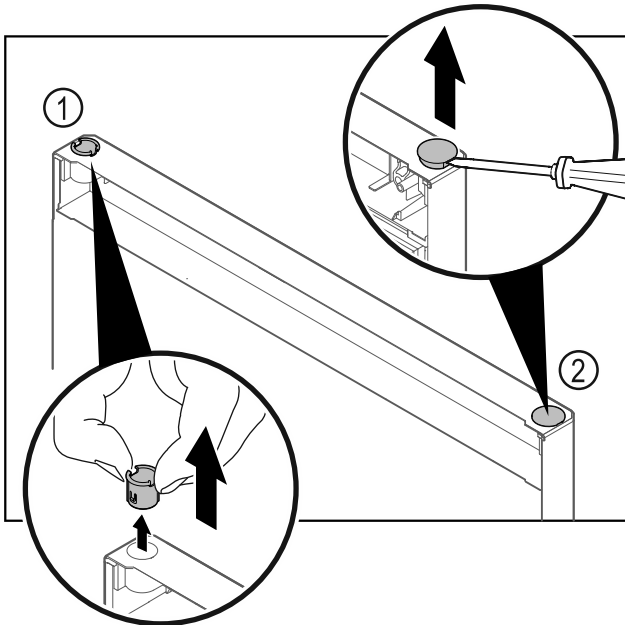

Fig. 22 Fridge compartment door
- Pull out the hinge bushing Fig. 22 (1) with your fingers.
- Carefully lift the cover plug Fig. 22 (2) with a slotted screwdriver and pull it out.